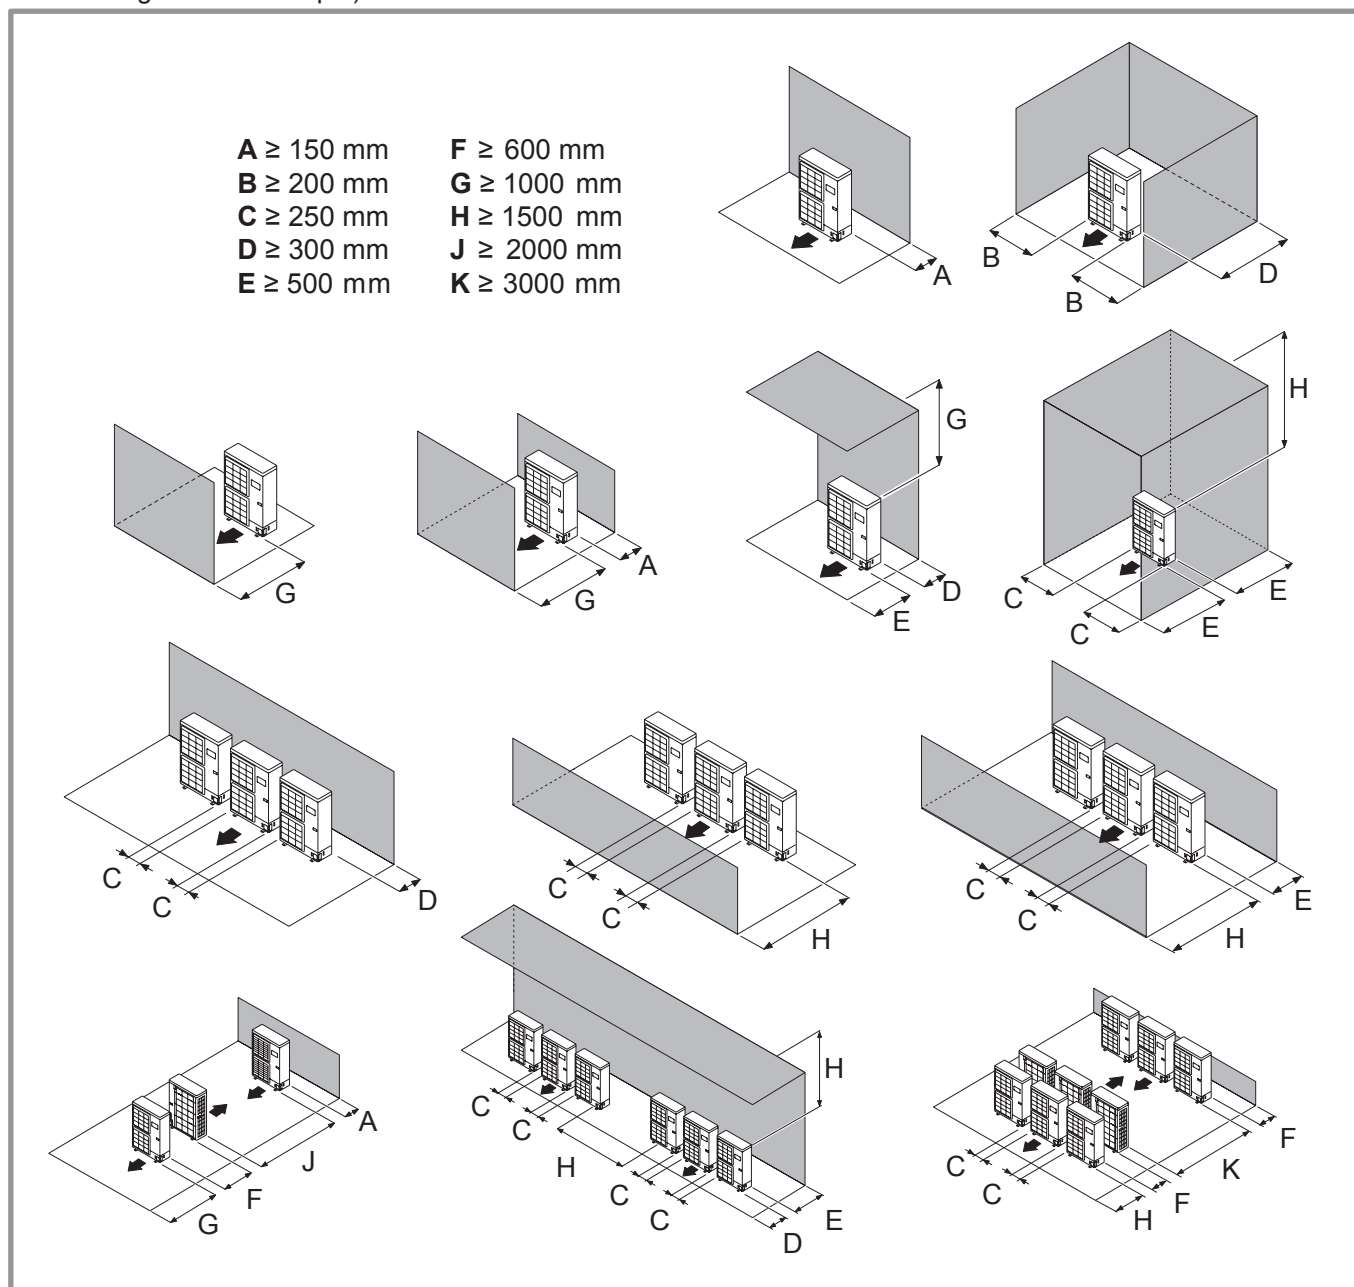

figure 13 - Minimum installation clearances around the outdoor unit (all models)
- ☞ **The outdoor unit must only be installed outside. If a shelter is required, it must have broad openings on all 4 sides and installation clearances must be observed (figure 13).**
- Nothing should obstruct the air circulation through the evaporator and out from the fan (figure 13).